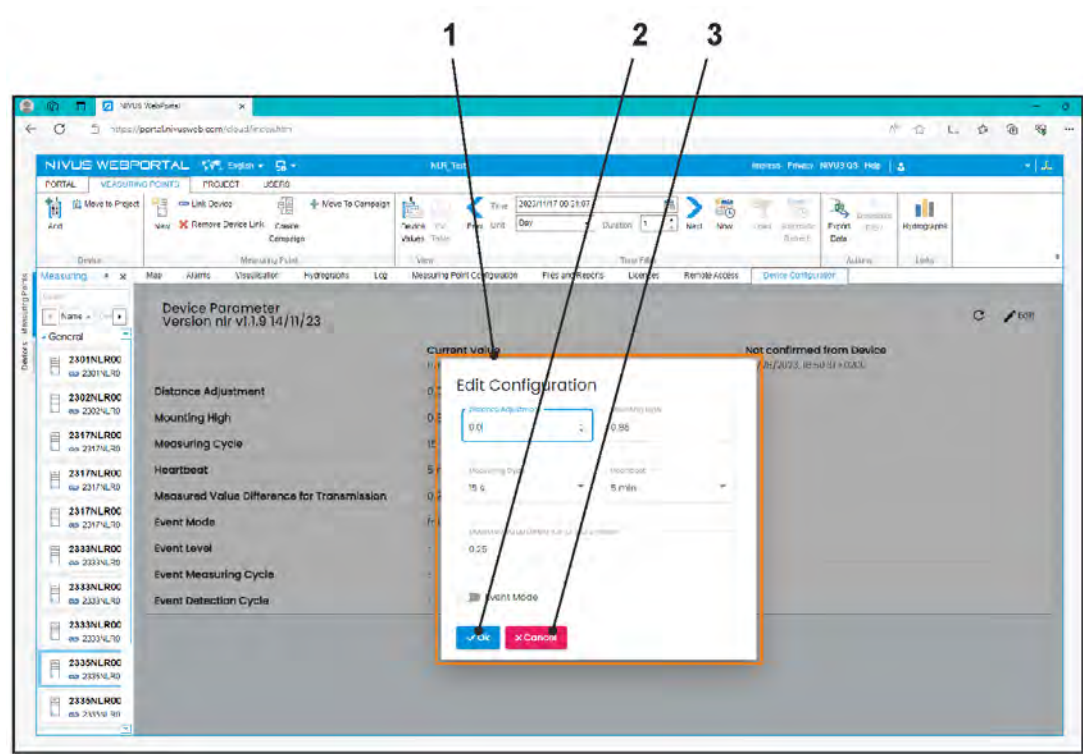

Fig. 30-2 Edit sensor parameters in the NIVUS WebPortal
An editing window (Fig. 30-2 Pos. 1) opens and the values can be changed there.
2. Press "OK" (Fig. 30-2 Pos. 2) to save the entered parameters and note "Not yet confirmed by device" in the right-hand column
press "Cancel" (Fig. 30-2 Pos. 3) to cancel the editing process without accepting values. The sensor continues to work with the last saved parameters.